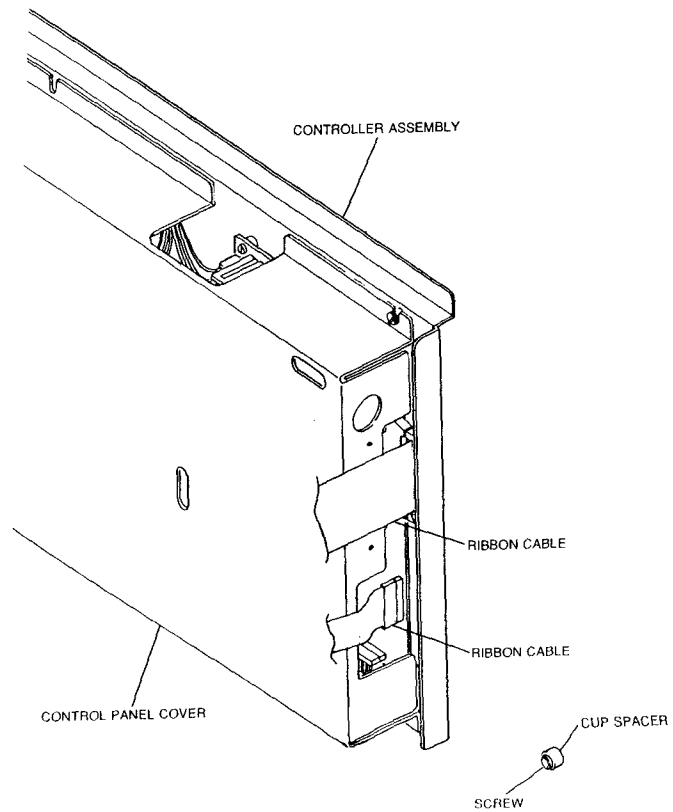

Figure 2
***Refer to Figure 2,3 and 4 during installation.***
1. Open the merchandiser door and disconnect the two ribbon cable connectors from the controller assembly. Remove the screw and cup spacer used as the controller assembly stop and pull the controller assembly forward. See Figure 2.